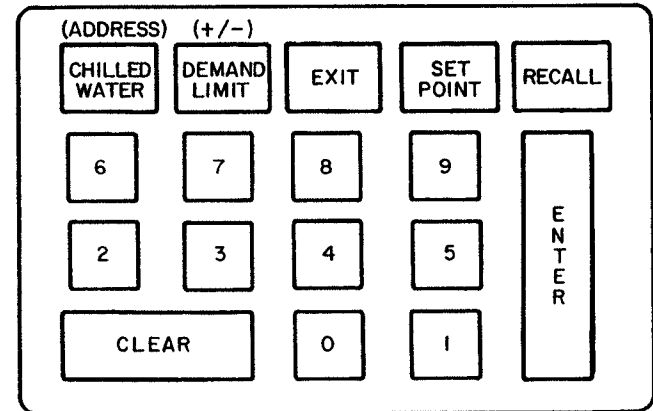

Fig. 4 — Close-Up View of ESP Keypad
**Initial Programming** — Before the ESP can be operated, the chiller identification number, the chilled water set point and demand limit set point must be programmed in the ESP address format. Refer to Fig. 4.